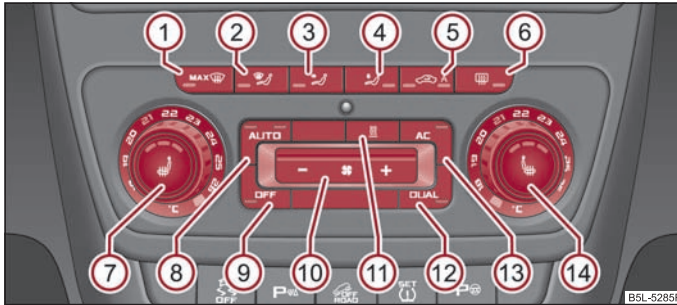

Fig. 105 Climatronic: Control elements
- Press the button  ⇒ page 97, fig. 105.
- Press the button **AC** \Rightarrow fig. 105. The warning light lights up in the button. ▶
- When you again press the switch (AC), the cooling system is switched off. The warning light in the button goes out. Only the function of the ventilation remains active when no lower temperature than the outside temperature can be reached. ■
- You can set the temperature for both sides after switching on the ignition with the control dial (7) ⇒ page 97, fig. 105.
- If you wish to set the temperature for the right side, turn the control dial (14). The warning light in the button (DUAL) lights up, this indicates that differing temperatures for the left and right side can be set.
- If the windscreen mists up, press the button (MAX) (1) ⇒ page 97, fig. 105. After the windscreen has been demisted, press the button (AUTO).